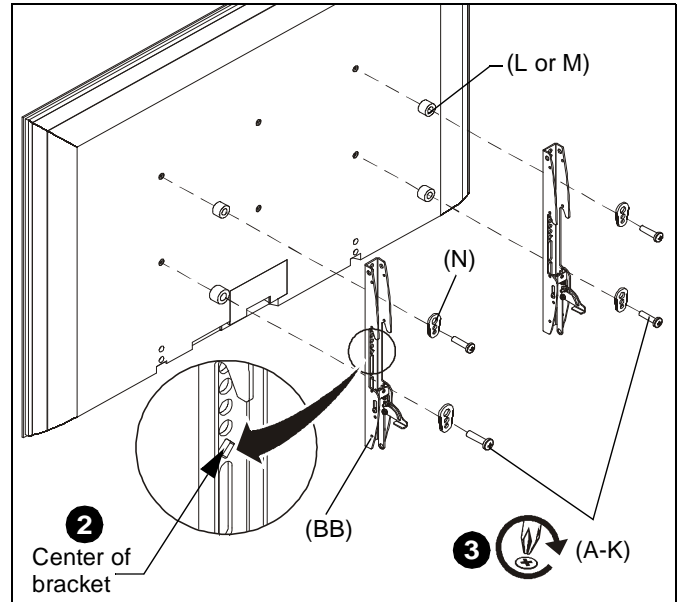

Figure 6
2. Align the center of the interface bracket (BB) with center of screen. (See Figure 6)
3. Select correct screws, spacers (if necessary) and universal washers from the hardware bag (A-N) and attach brackets (BB) to back of screen. (See Figure 6)